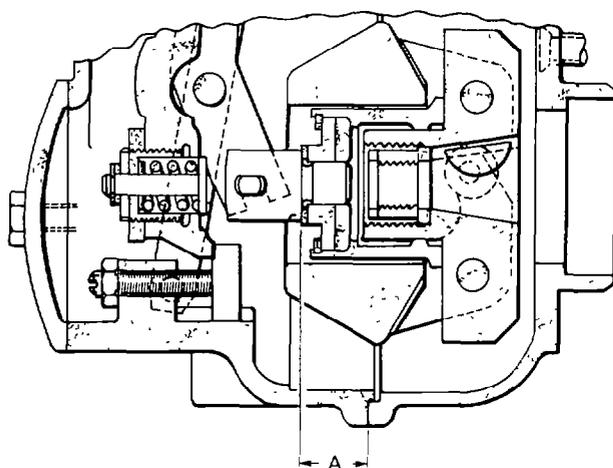

Figure 127 Knuckle Fitting — Dimension
- (13) Fit the O-ring (3), washer (2) and bush (1). fit the control lever.
- (14) Check the ease of movement of the swivel lever by moving the control lever.
- (15) Assemble and check the sliding sleeve (42) and knuckle (46a) as follows:
- (a) Insert the bearing plate (43) and spacer bush (44) into the guide bush and secure them with the circlip (45).
- (c) Use a vernier depth gauge to measure the distance from the face of the spacer bush to the contact face of the housing cover; this distance (A in Fig 127) must be $19 \text{ mm} \pm 0.2 \text{ mm}$.